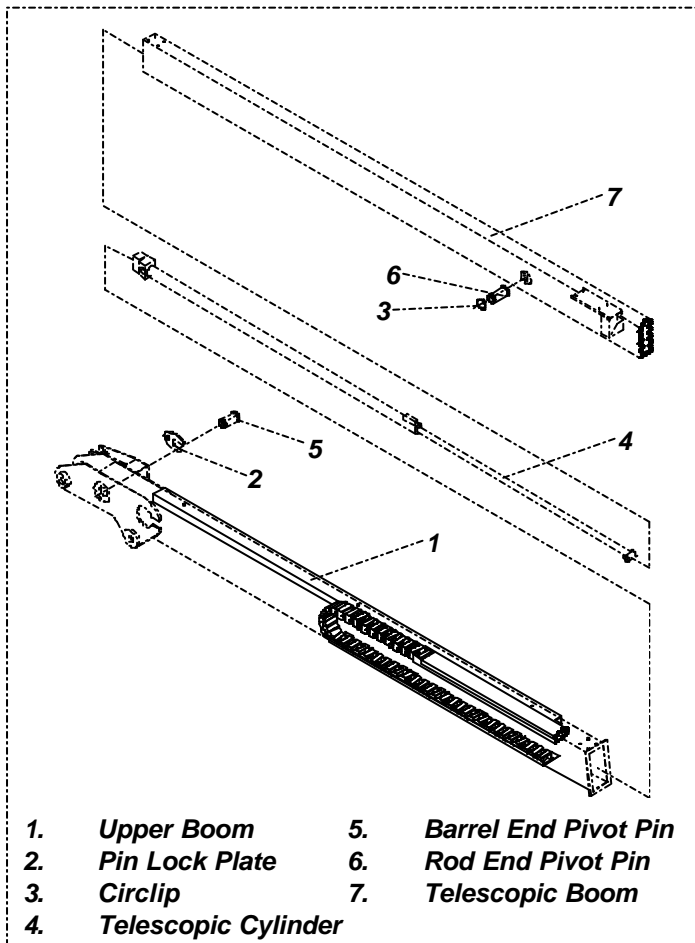

Figure 4-18: Telescopic Cylinder
4.16 Telescopic Cylinder (Figure 4-18)